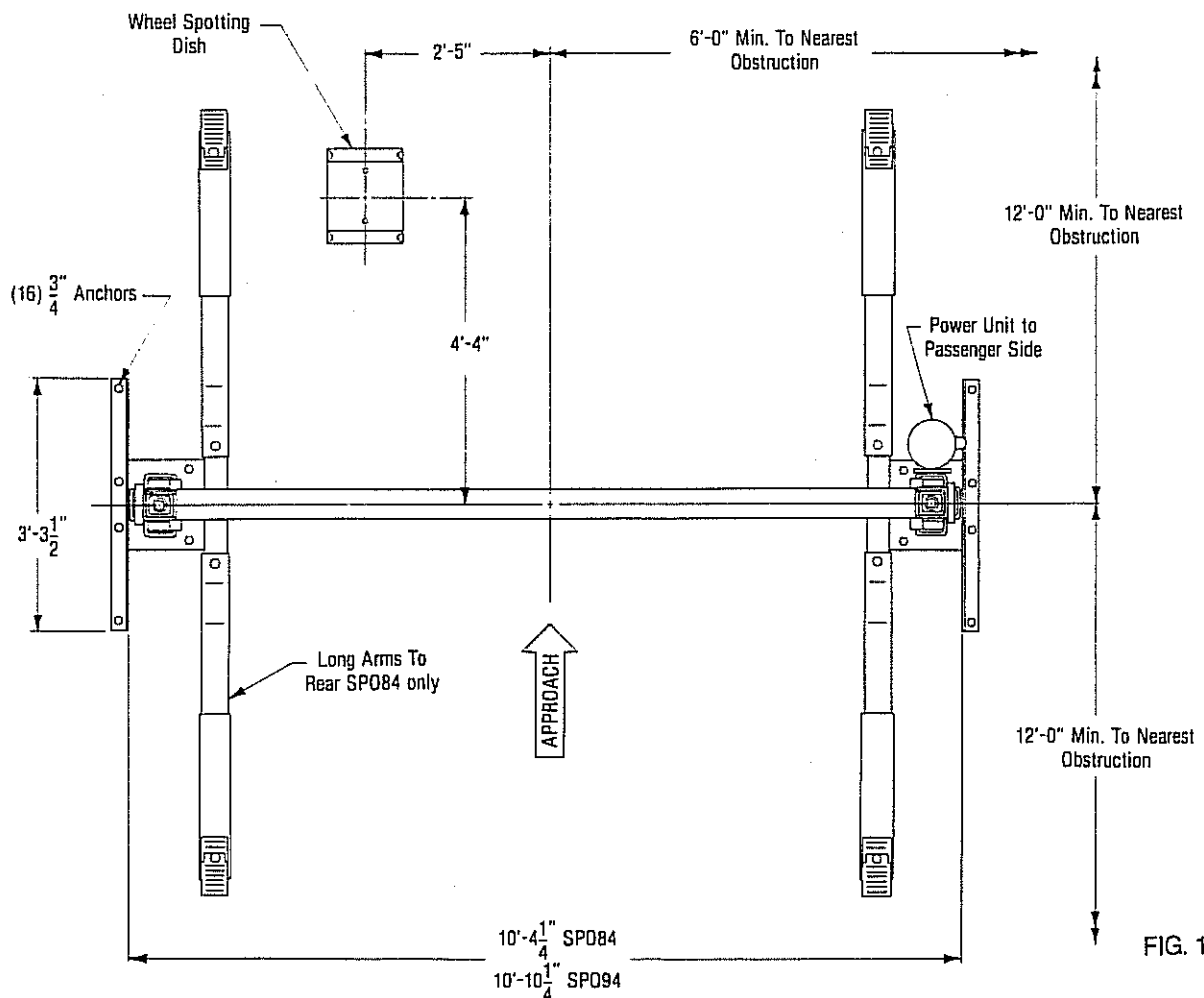

FIG. 1
1. LIFT LOCATION: Use architects plan when available to locate lift. Fig. 1 shows dimensions of a typical bay layout.
3. LIFT SETTING: Position columns in bay using dimensions shown in Fig. 1 & 2. Place column with power unit bracket on right side of vehicle approach. Both columns must be square on center line of lift. Drill (16) $\frac{3}{4}$ " holes x 4" deep using base holes as guide, Fig. 1 & 3. Lift and anchors are designed for use on concrete 5" minimum thickness. Floor shall sustain minimum 2500# anchor load for SPO84 or 3500# anchor load for SPO94.
- SUPERSTRUCTURE - Grease swivel arm pins and holes. Install arm and adapter assemblies. Note: SPO84 only, (2) long arms go to rear, Fig. 1.
23. Lag wheel dish to floor. See Fig. 1 for location.
1. Swing arms out to full drive-thru position, Fig. 1.